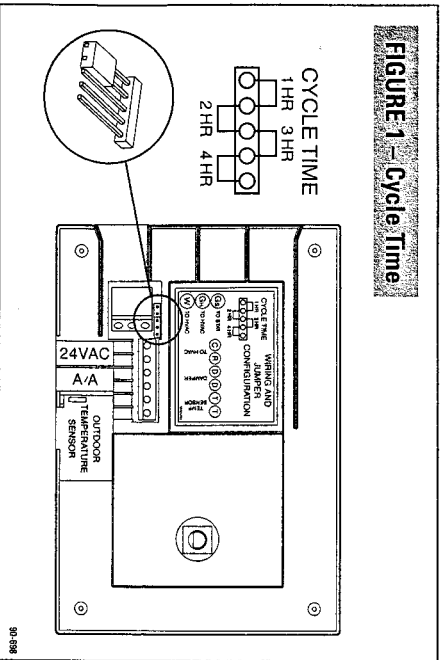

FIGURE 1 – Cycle Time
- Remove the knob by pulling it straight out from the controller. Remove the cover by grabbing along the top and bottom edges of the cover and pulling straight out from the base. Refer to Figure 1 to locate the cycle time header & jumper.